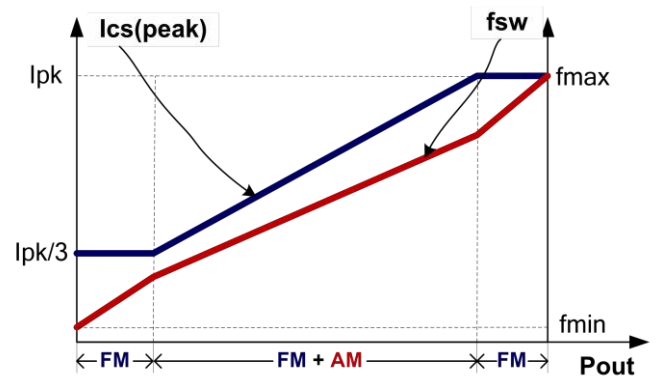

Fig.4
To meet the tight requirement of averaged system efficiency and no load power consumption, a hybrid of frequency modulation (FM) and amplitude modulation (AM) is adopted in CY3046 which is shown in the Fig 4.